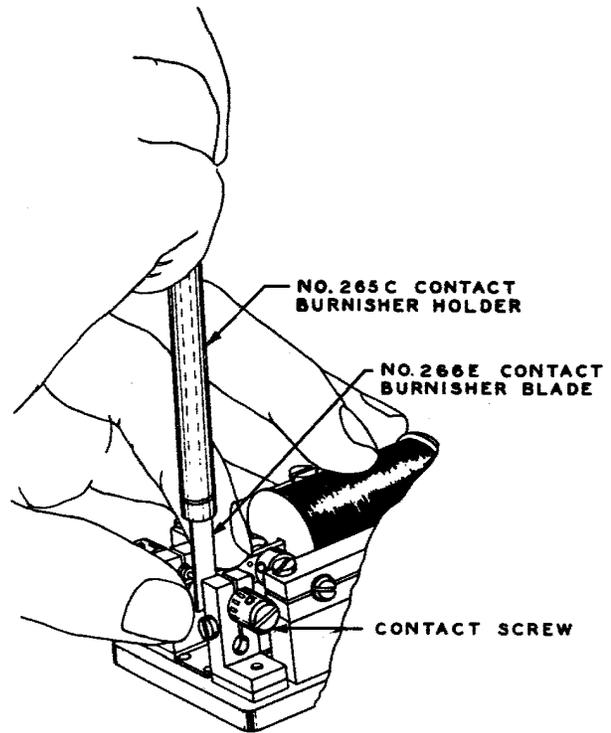
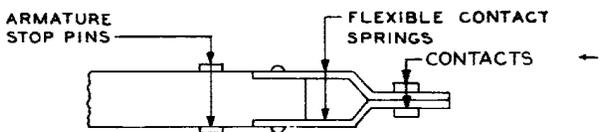

Fig. 20 - Method of Cleaning Contacts on 209-type Relays Equipped With Duckbill-type Contact Springs
Fig. 19 - Duckbill Type of Flexible Contact Springs - 209-type Relays
4.13 *209-type Relays Equipped With the Duckbill Type of Flexible Contact Springs Illustrated by Fig. 19:* Insert the No. 266E blade in the No. 265C contact burnisher holder with the wide end outward. Insert the contact burnisher blade approximately vertically between the armature and the stationary contact as shown in Fig. 20. If necessary, back off the contact screws equally to permit the burnisher blade to enter between the armature and the contact. Hold the end of the flexible contact springs with the thumb and forefinger as shown in Fig. 20, to resist the movement of the armature in a vertical plane, and burnish the contacts by rubbing up and down while holding the armature lightly against the burnisher. Take care that the contacts are burnished so that their surfaces remain parallel to the armature. Do not attempt to reproduce a rounded surface on the stationary contact. If the position of the contact screws was disturbed, readjust the screws as covered in the section covering requirements and adjusting procedures for the apparatus.